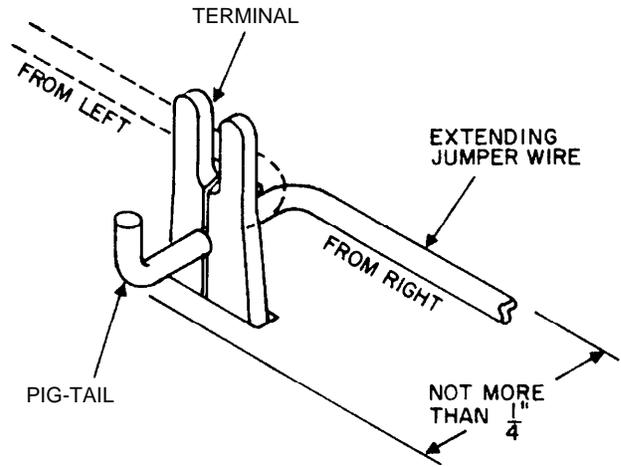

Figure 8. Example of a Properly Terminated Jumper.
4.05 Each connection should be examined visually after completion to make certain that the termination is secure and that neither the terminal nor the wire has been damaged during connection. The final connection should appear as shown in Figure 8.